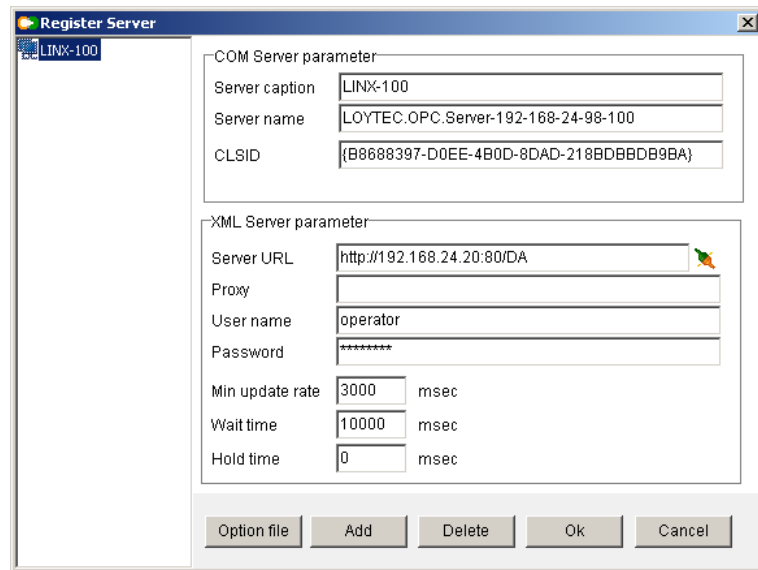

Figure 202: Register Server dialog in the bridge software.
5. A new server entry is added. Enter the information on **Server caption** (this is displayed), **Server name** (this is the COM object name), and the **Server URL** (the URL of the LOYTEC device) as shown in Figure 202.